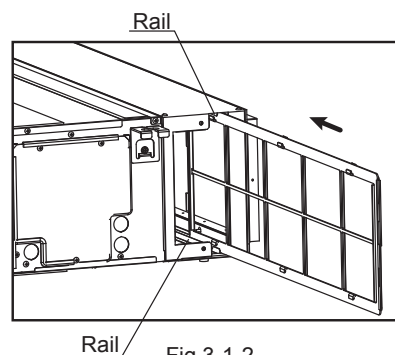

Fig.3-1-2
(2) Insert the filter that was removed in step 2-1 above along the top and bottom rails. (Fig. 3-1-2)